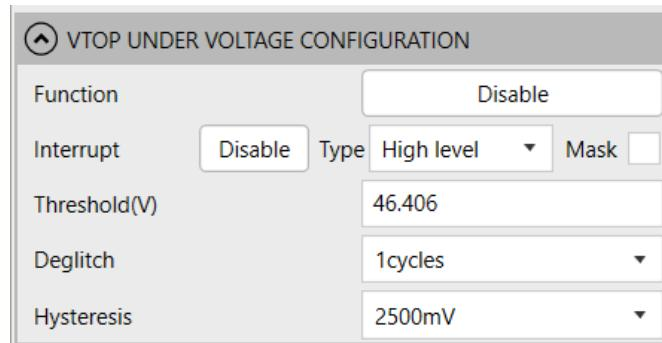

Figure 26: VTOP UV Configuration
21. Figure 26 shows how to configure the VTOP pin's UV parameters.